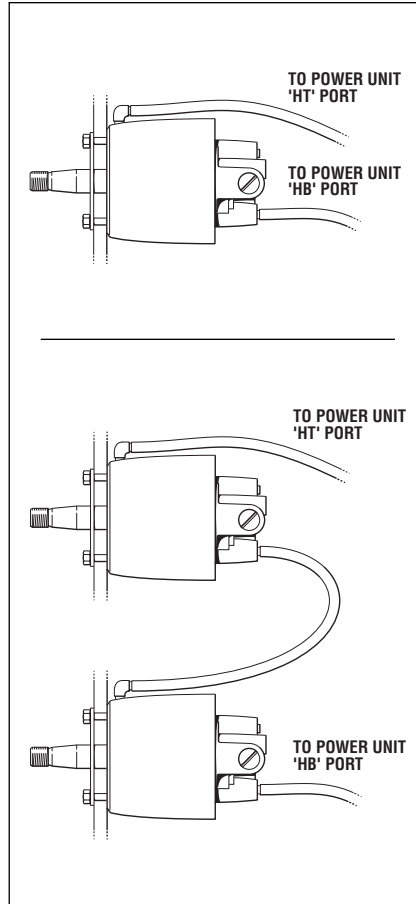

Figure 6. Rear Mount Helms.
For multiple helm installations, helm reservoirs must be DIRECTLY chained together by connecting the upper reservoir port of the lower helm to the lower reservoir port of the next highest helm. (Refer to Figures 6 and 7.)
- Connect hose from lower R port on the helm pump to the HB port on the DC Power Unit. (Refer to Figures 6 and 7.)
- Connect hose from upper R port (or fill port) on helm to the HT port on the DC Power Unit. (Refer to Figures 6 and 7.)